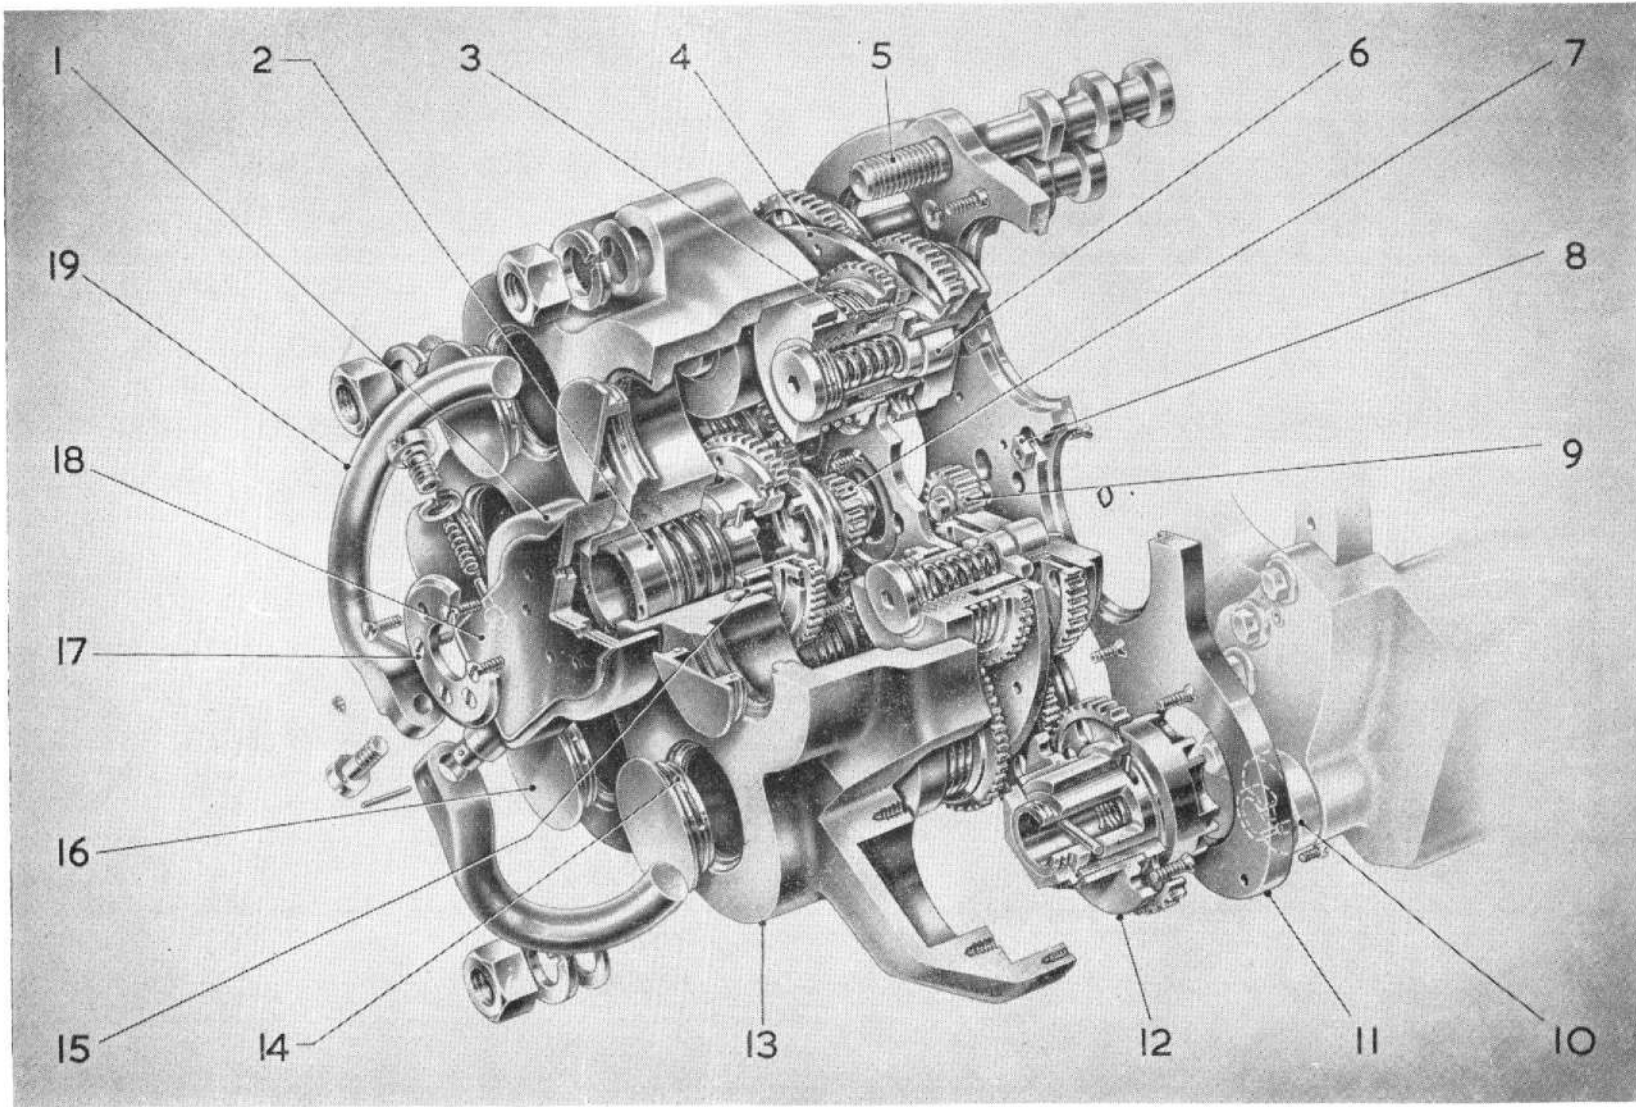

Fig. 27. Exploded view of firing head
66. The assembly (2, fig. 27) is fitted to the firing head as follows:—
KEY TO FIG. 27
- (1) Position the centre plate (*fig. 27*) over the thrust nuts so that the screw holes in the plate and in the firing head coincide, then press the plate down into position so that each of the six thrust nuts is located at its forward end by the plate.
- (2) Fit and tighten each of the five cheese-head screws complete with a single coil spring washer.
- (3) Fit and tighten the countersunk locating screw which should be locked by peening.
- (4) Operate the handle assembly and check that the gears move smoothly then return the handle to the pad forward position.
- (2) Assemble the geneva wheel to the geneva gear, align the slots and the drilling in the gear and insert the stop-pin.
- (3) Assemble the bronze bush to the geneva wheel and retain it in position with the lock-nut.
72. To fit this component (*fig. 5 and fig. 27*) proceed as follows:—